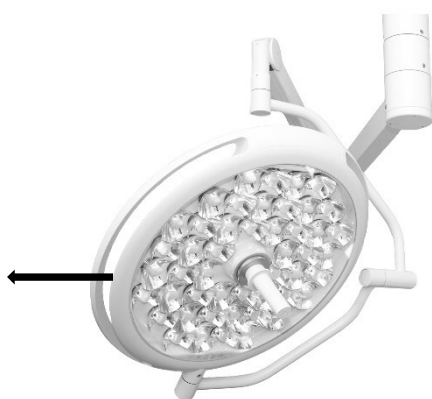

Figure 25: Adjustment of the brake screw using the example of cardan suspension
- 1.** Insert Allen key (Figure 25) into the opening for adjusting the brake screw that should be adjusted.